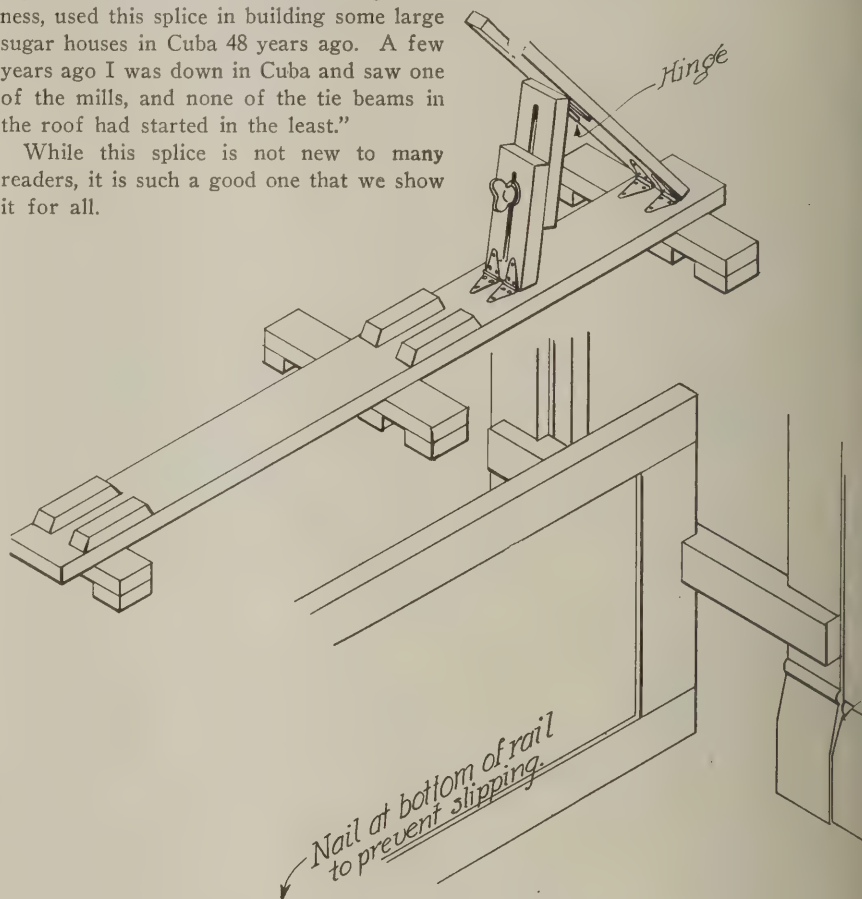

Fig. 5—Two door vises
S. J. M., the enterprising young carpenter of Glen Ullin, N. D., whose letter is noted under the heading, "From North Dakota," sends the sketches shown in Fig. 5 and says: "I have used both types of door vises illustrated in the sketches for some years and have found both of them very satisfactory. The smaller one is a vise which may be used on jobs where there are only one or two doors or windows to fit, or on a job where there are some doors the